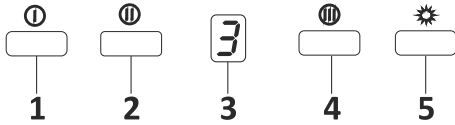

Fig. 14: 3 Spd Dig Button
1. ➤ Press this button to turn on the product. Product will also run on 1st speed level when this button is pressed. Fig. 14
2. ➤ Product will run on 2nd speed level when this button is pressed. Fig. 14
3. ➤ Dig display You can follow which speed the product is currently working on this display. Fig. 14
4. ➤ Product will run on 3rd speed level when this button is pressed. Fig. 14
5. ➤ Press this button to turn on and off the lamp. Fig. 14
6. ➤ Pressing and holding any of the motor operation buttons for more than 2 seconds will initiate a timer function of 15 minutes. A signal will be Displayed once the timer starts and the motor will stop automatically after 15 minutes. Fig. 14